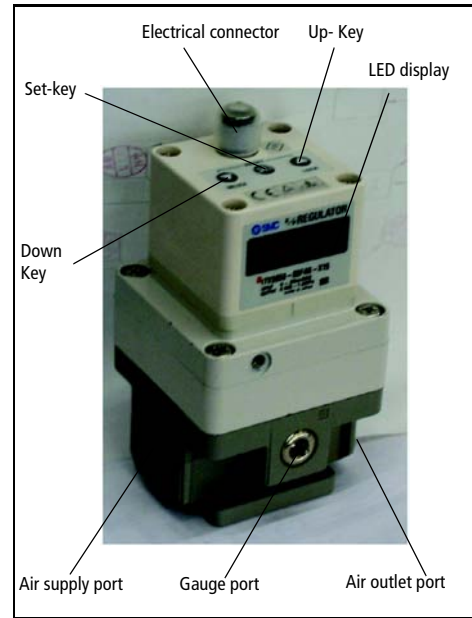

Fig 1 - Key features of an ITV
Push 'Up' and 'Down' keys (Fig 1) together for longer than 3 seconds. Display shows 'RES'. Release keys to reset minimum pressure and maximum pressure.
The keys are locked after connecting power, and can not be operated. 'Loc' is indicated on Display (Fig 1) when any keys are pushed.
- Push 'Down' key (Fig 1) for longer than 2 seconds.
- Push 'Set' key (Fig 1) to unlock.
- Push 'Up' key (Fig 1) for longer than 2 seconds.
- Push 'Set' key (Fig 1) to lock.
Note: To cancel push 'Down' key (Fig 1).
If an abnormality is detected by the ITV3050 the LED display (Fig 1) will show 'Er' followed by a code number. Isolate the power supply and ascertain the problem and solve. Re-instate power supply after correcting fault.